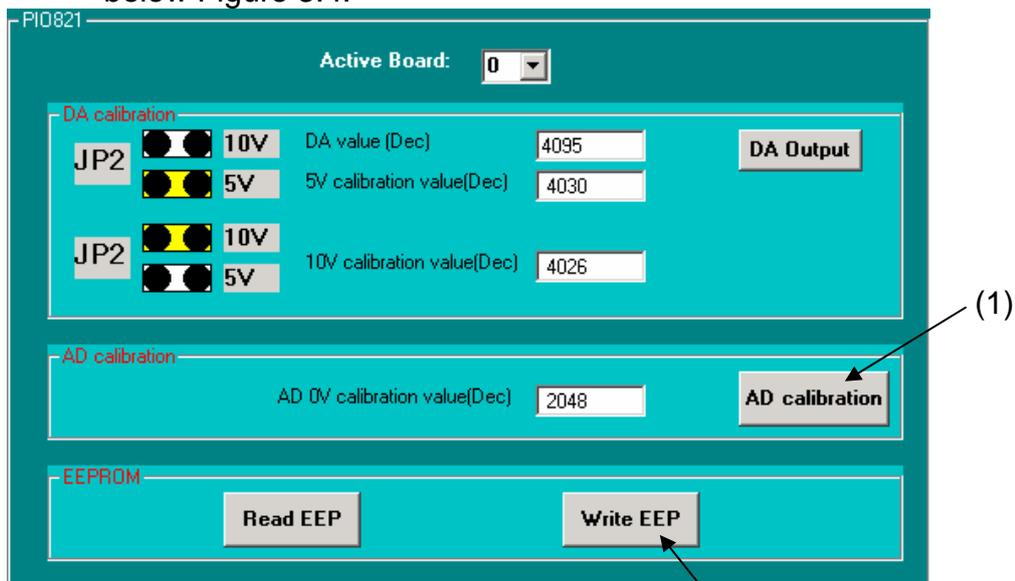

Figure 3.4.
Step 2. (1) Click the "AD calibration" button to write the value of the analog input channel 0 into the text field of the "AD calibration value". (2) Click the "Write EEP" button to save the calibration data into the EEPROM to finish the calibration process, as below Figure 3.4.